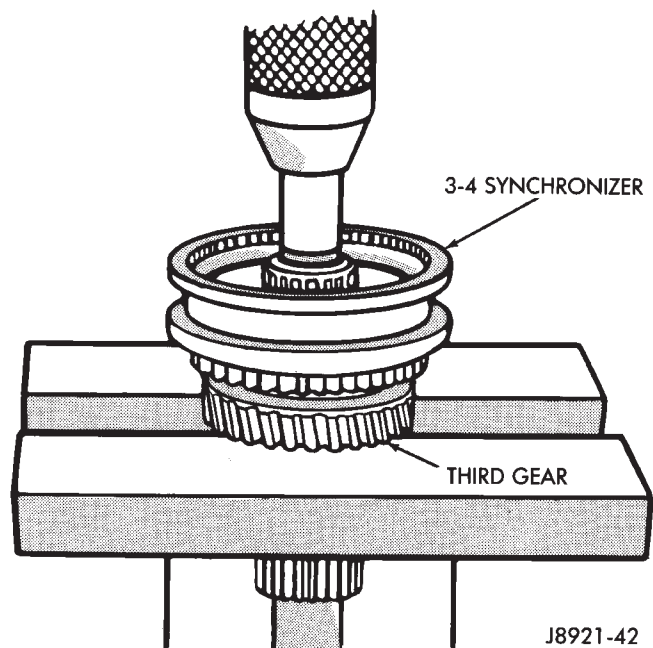

Fig. 107 Remove 3-4 Synchronizer And Third Gear
(11) Using Bearing Splitter P-334 or suitable press plates positioned under third gear, press the 3-4 synchronizer and third gear from output shaft (Fig. 107).